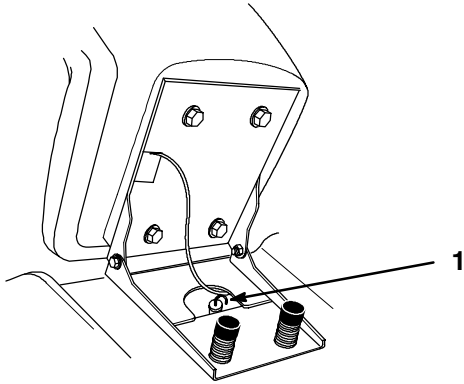

Figure 50
4. Clean around the transmission dipstick (Fig. 50) so dirt cannot fall into the filler hole and damage the transaxle.
5. Pull out the transmission dipstick and wipe the metal end clean (Fig. 50).
6. Slide the dipstick fully into the filler tube (Fig. 50).
1. Slowly pour the specified refill capacity of oil into the filler tube (Fig. 50).